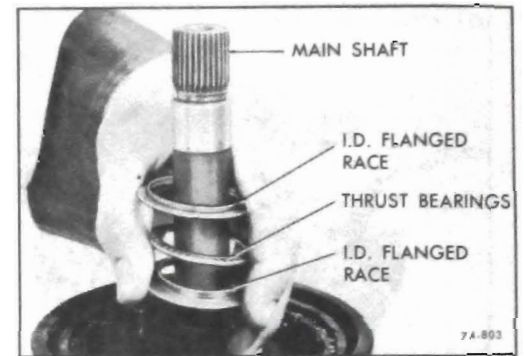

Figure 76-594
16. Lubricate with petroleum jelly and install center support to sun gear thrust races and bearing as follows: See Figure 76-594.